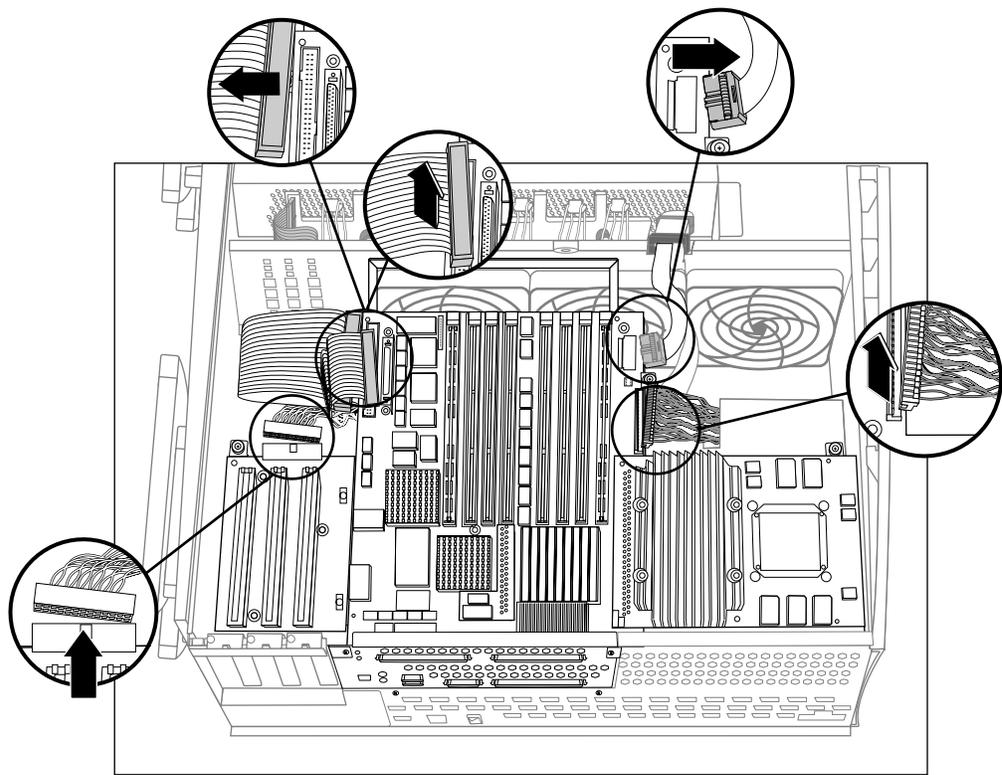

Figure 5-6 Disconnecting Cables From the Logic Carrier
4. Disconnect the cables that are attached to the logic carrier, as shown in Figure 5-6.